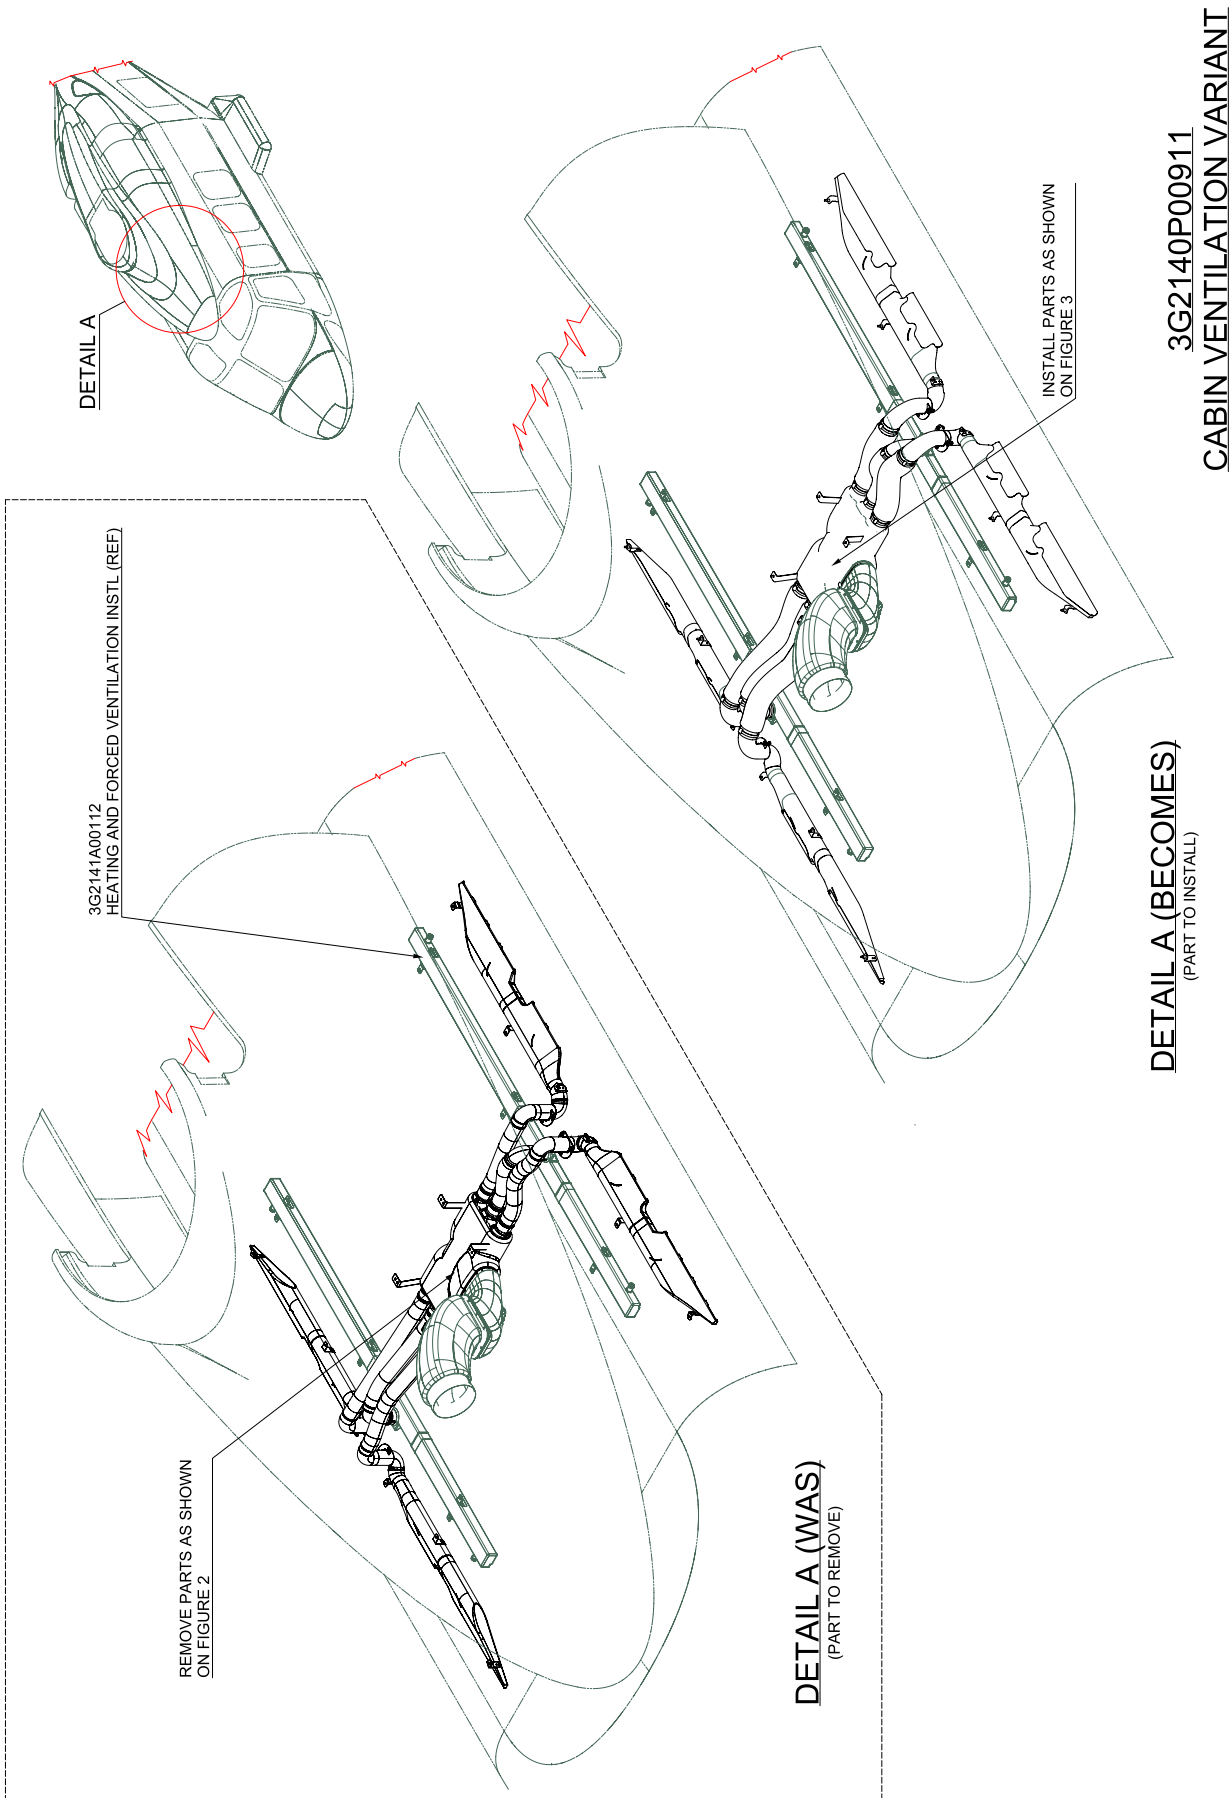
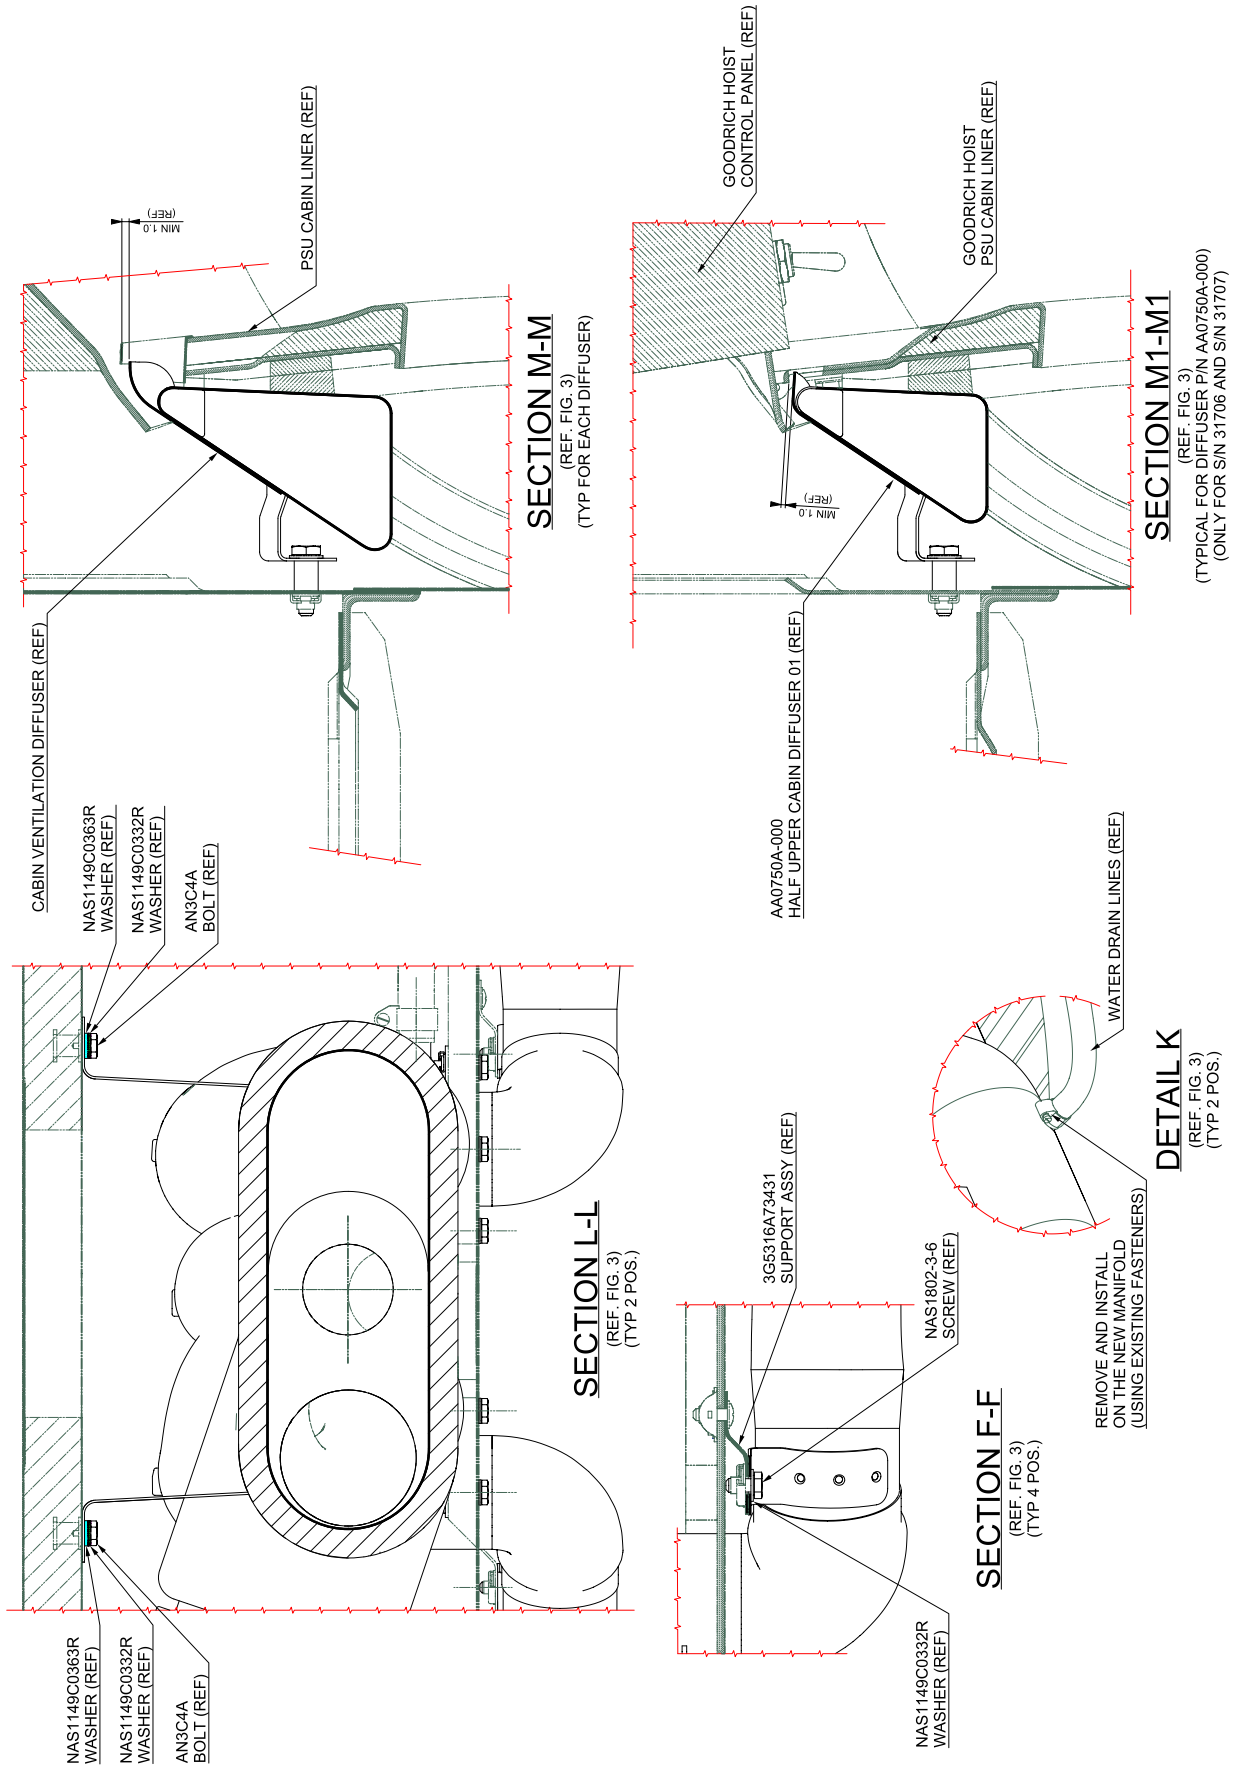

Figure 1
Figure 5
2. With reference to Figure 1 thru Figure 5, gain access to the area affected by the installation and perform complete provision cabin ventilation variant P/N 3G2140P01011 as described in the following procedure: